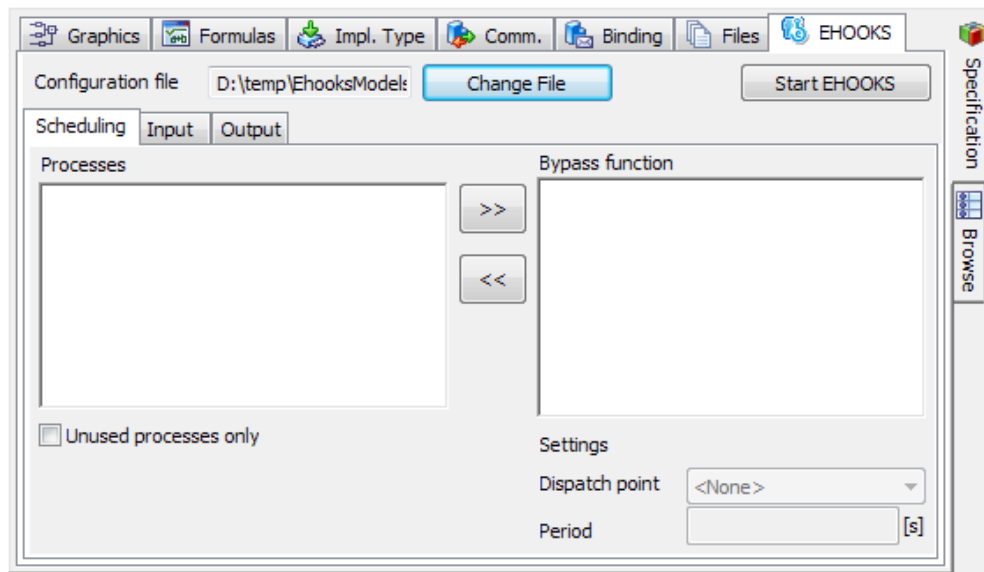

Figure 4.3: "EHOOKS" tab with EHOOKS configuration file
Path and name of the EHOOKS configuration file are shown in the "Configuration file" field at the top of the "EHOOKS" tab. The sub-tabs "Scheduling", "Input" and "Output" appear. See also Figure 4.3 on the next page.
1. In the "EHOOKS" tab, click on **Start EHOOKS** (see Figure 4.3 on page 20).